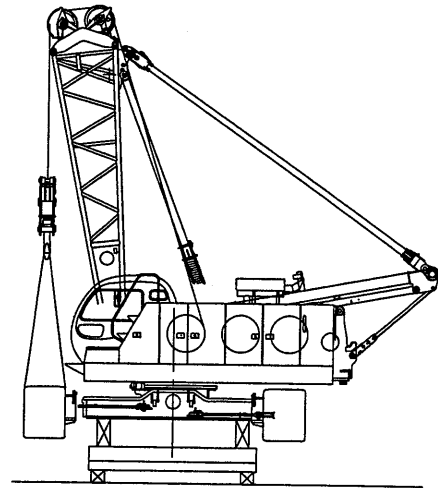
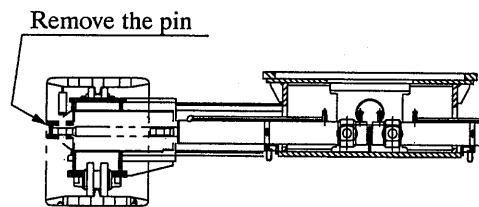

Fig. 11-21
Fig. 11-22
- (7) Detach the pin at the horizontal cylinder tip of the crawler to be removed, and retract the cylinder. Then, lift the crawler. (Fig. 11-21, Fig. 11-22)